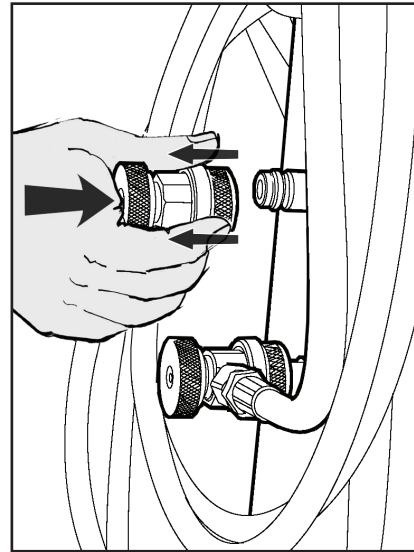

Fig. 8: Unfastening quick-release coupling
- ❶ The service quick-release couplings are connected to the service connections of the vehicle air conditioning system during A/C service. When not in use, the service quick-release couplings can be connected to the parking/flush couplers.
- ❶ To remove the service quick-release couplings from the parking/flush coupler, (Fig. 8), press the coupling slightly towards the connection and carefully pull the knurled section back to unfasten it from the coupler.